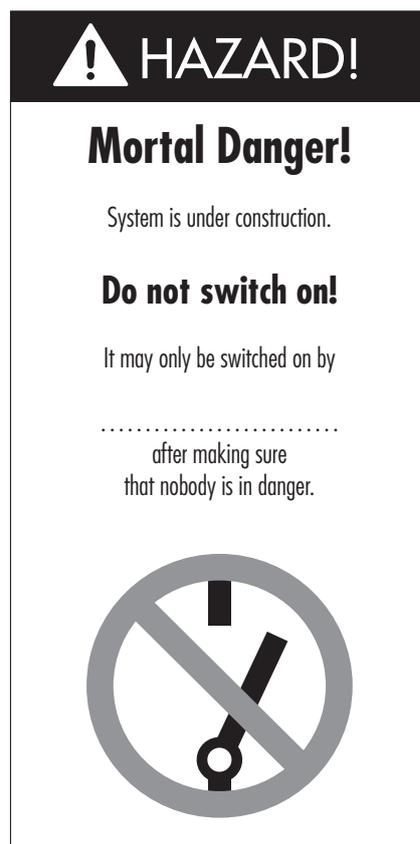

Fig. 3: Example of a warning sign to prevent reactivation
3. Attach a warning sign to the control unit and state the name of the person responsible, who is authorised to switch the system back on on the warning sign (→ Fig. 3).